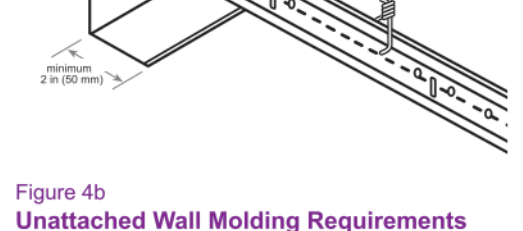

Figure 4b
- Spreaders Bars (Figure 4b)**